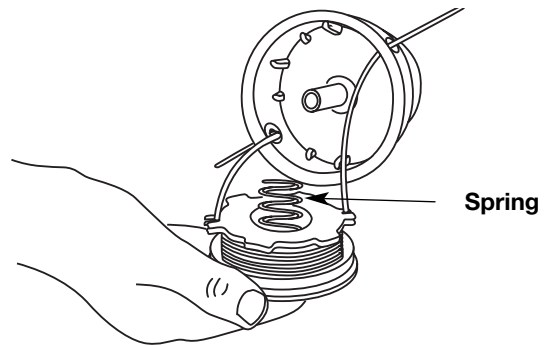

Fig. 23
13. Insert the ends of the line through the eyelets in the outer spool and place inner reel with spring inside the outer spool (Fig. 23). Push the inner reel and outer spool together. While holding the inner reel and outer spool, grasp the ends and pull firmly to release the line from the holding slots in the reel.
5. Insert the ends of the line through the eyelets in the outer spool (Fig. 23).